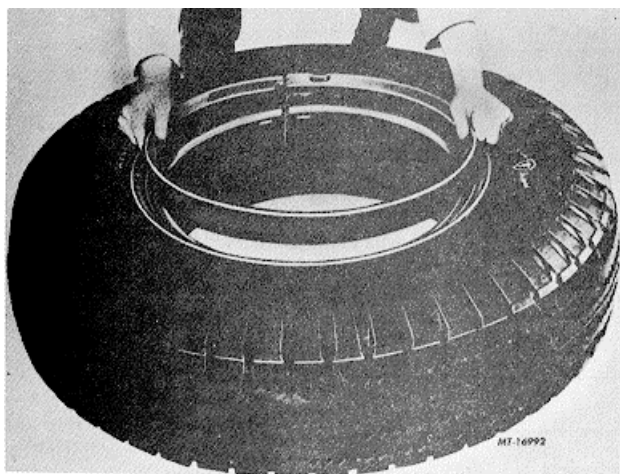

Fig. 46
2. Place side-ring on bead of tire. Insert tapered end of lock-ring between side-ring and rim base (Fig. 46).